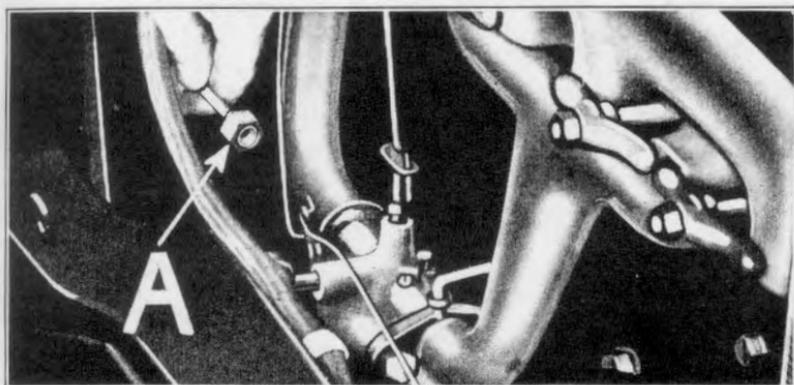

Fig. 442
- (g) Run down feed line pack nut on carburetor inlet elbow, making sure that feed pipe gasket inside of pack nut is in place (See "A" Fig. 442).